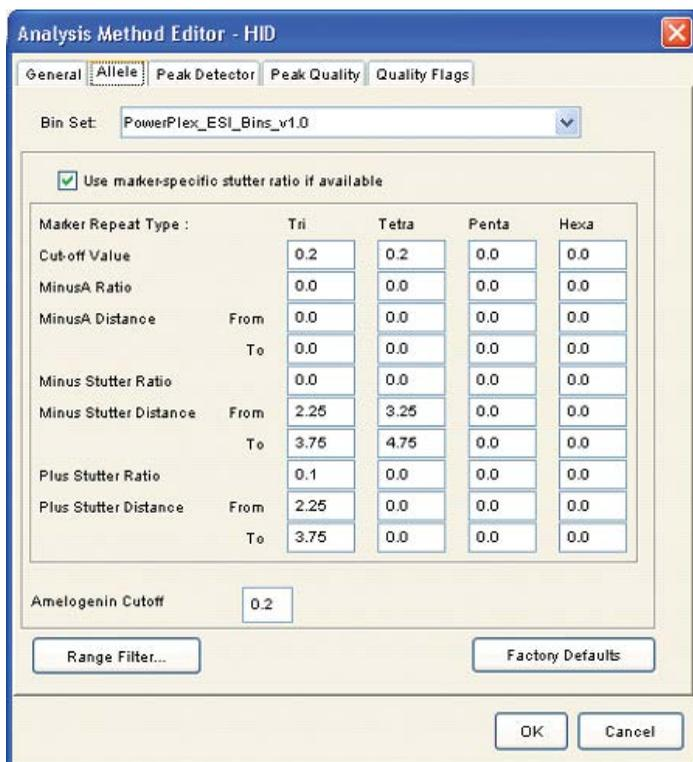

Figure 24. The GeneMapper® ID Allele tab with settings for using a 20% peak filter.
6. Select the Allele tab (Figure 24).
9. Enter the values shown in Figure 24 for proper filtering of peaks when using the PowerPlex® ESI 17 Pro System. For an explanation of the proper usage and effect of these settings, refer to the Applied Biosystems user bulletin titled “*Installation Procedures and New Features for GeneMapper ID Software 3.2*”.